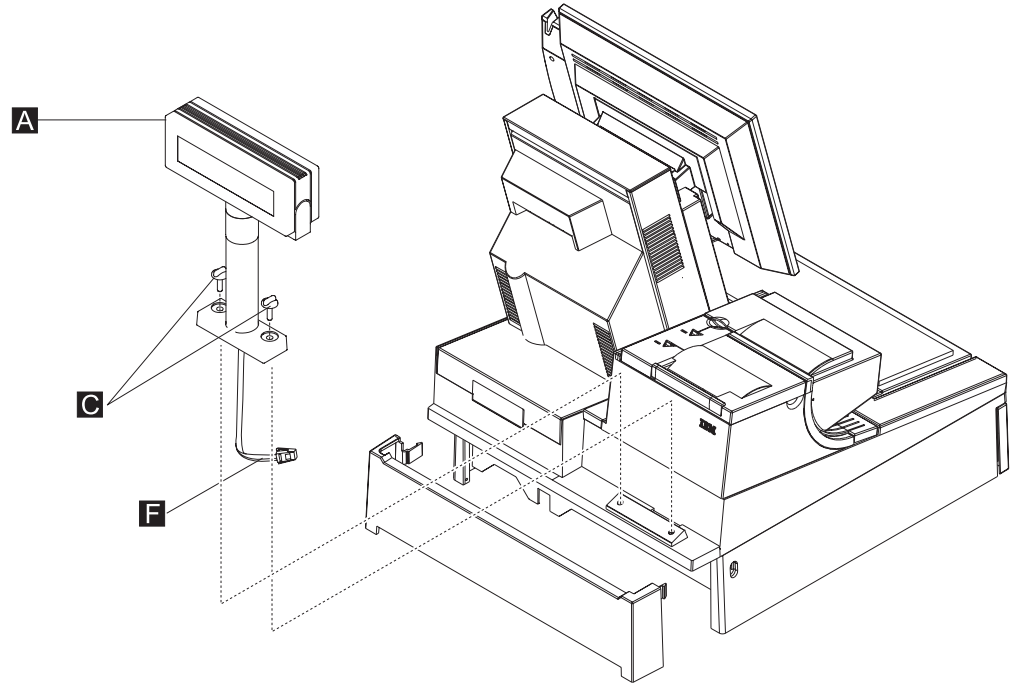

Figure 46. Installing the distributed customer display onto the keyboard integration tray
- a. Route the character display cable through the hole behind mounting post as shown in Figure 46. You might need to lay the display on its side to connect the display cable to the system unit rear connector panel.
- c. Attach the distributed customer display **A** to the cash drawer mounting post with two thumbscrews **C**. Snap the entire unit into place at the rear of the tray, as shown in Figure 46.